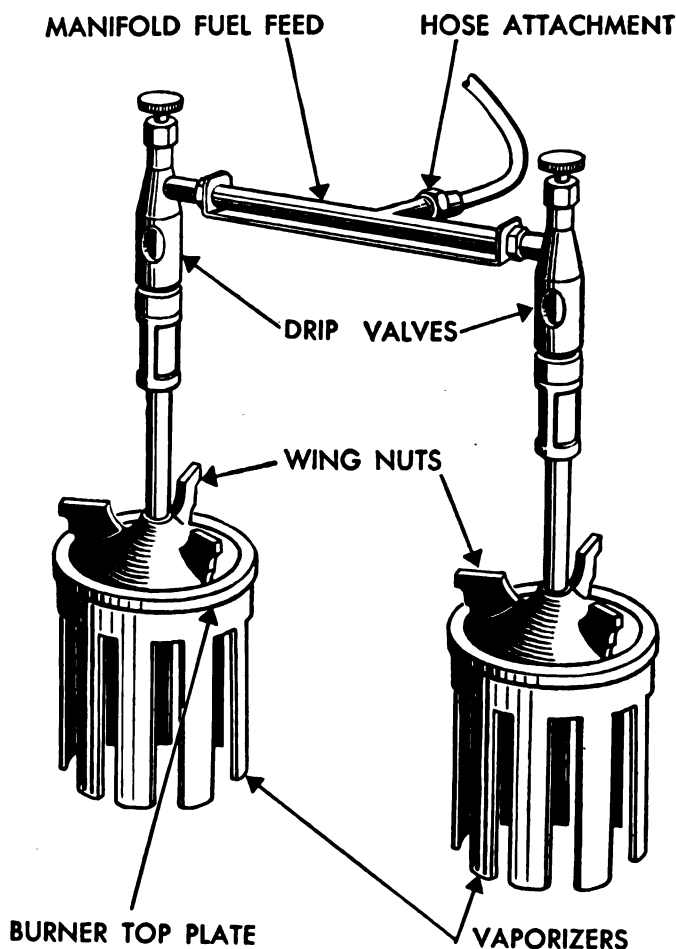

Figure 18. Burners, down draft, gravity-feed.
**a. OPERATION.** Heat for the range is normally furnished by two down-draft, gravity-feed burners (fig. 18). Principal parts of the burner are the
draft, gravity-feed burner, similar to those used with the outfit, cooking, pack. (See par. 19 and fig. 18.)